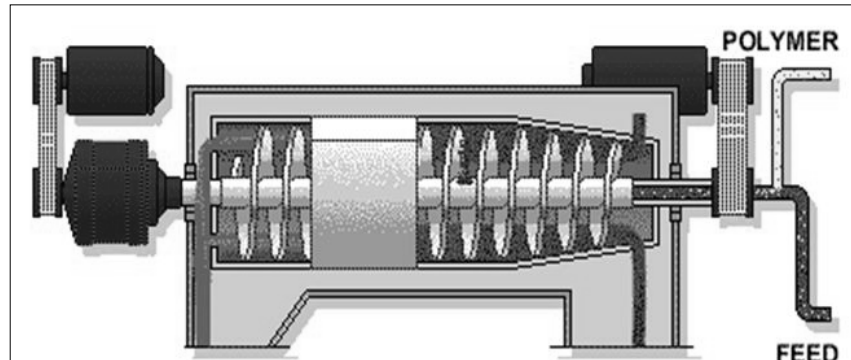

Figure 4-5. Centrifuge thickening.
- ❑ **Centrifuges.** Centrifugal thickening uses centrifugal force instead of gravity to separate wastewater solids from liquid. This force is created in a cylindrical bowl that rotates at high speed (Figure 4-5). This thickening method is only used with secondary sludge. Centrifuge thickening can achieve up to around 8% total solids.